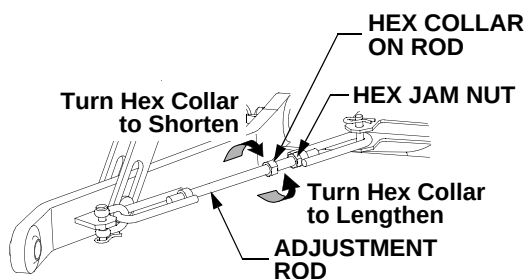

Figure 25
- The length of the hitch chains limit the side-to-side movement of the hitch lower links. To adjust the length of the hitch chains, loosen the jam nut and turn the hex collar on the adjustment rod as shown in Figure 25. Tighten the jam nut after adjusting.